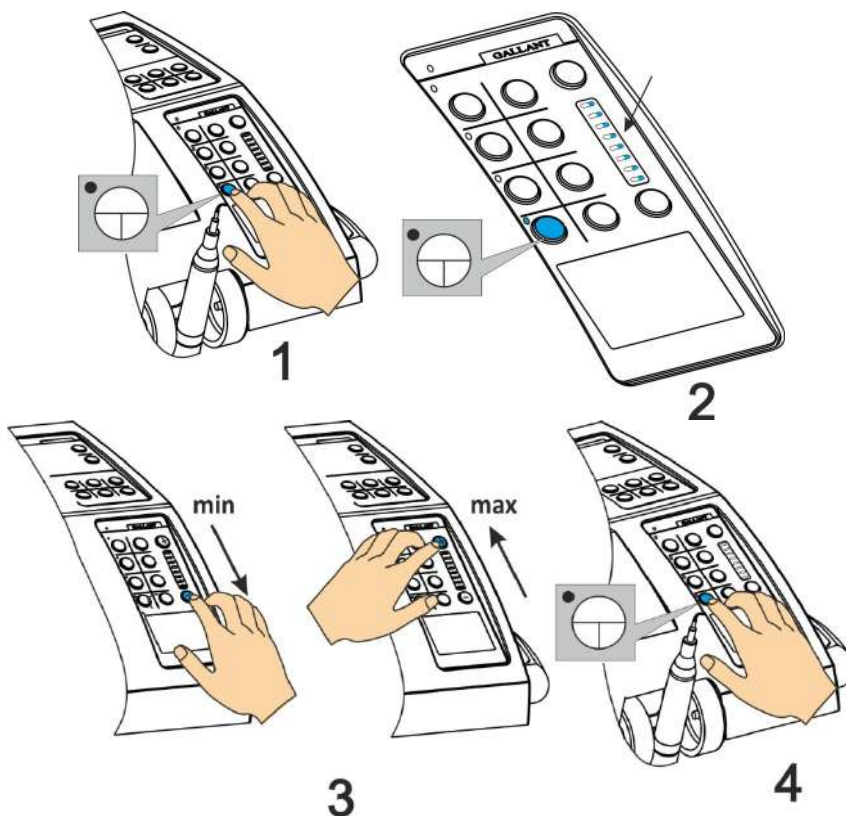

Figure 5.3.3.1 Adjusting the torque of the micromotor in the ENDO mode
1. Press the button to switch on ENDO mode, while the indicator flashes, which means that this mode has been set (see Figure 5.3.3.1).